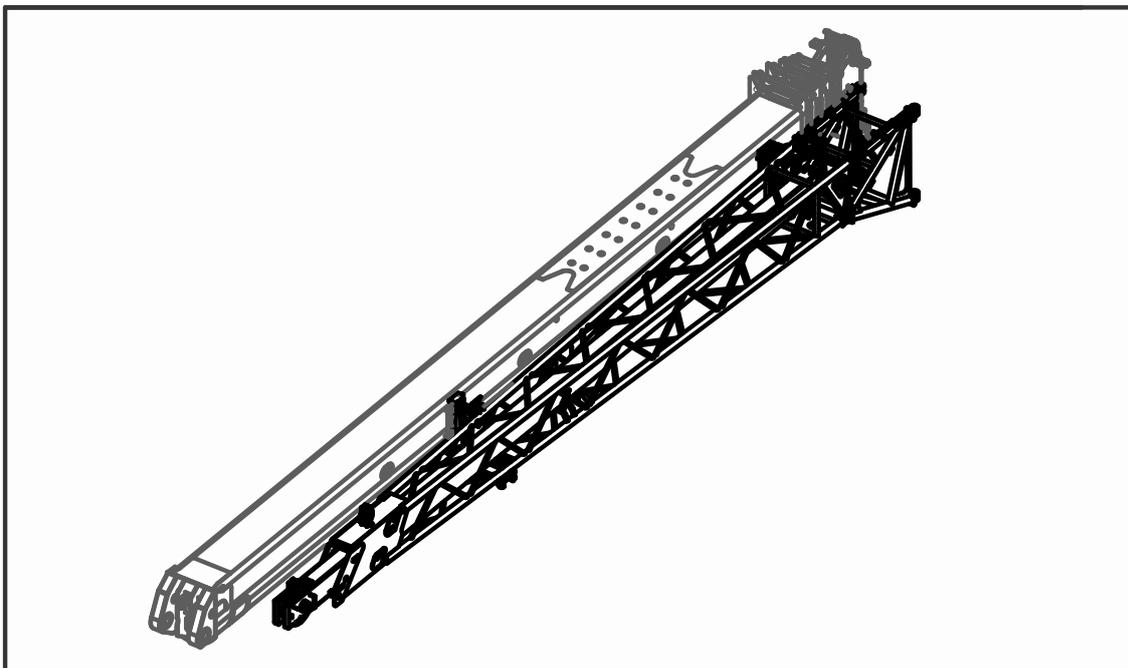

Fig. 05-01
- b) Telescope main boom in completely and derrick it down to the rear or the side in the  $-2^\circ$  position. Ensure that there is 30m slewing range to the slewing center; See Fig.05-01;